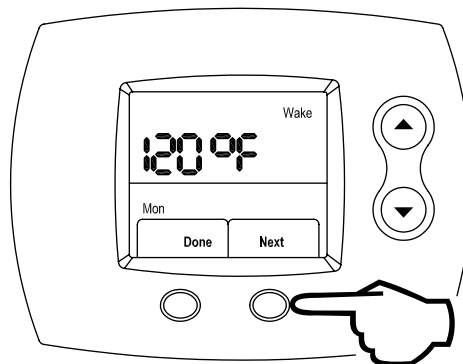

Figure 83
Step 9: Press the **RIGHT** (Next) button to lock in the Wake period water temperature, as shown in Figure 83. Now, the Wake time period is set for the day being edited.